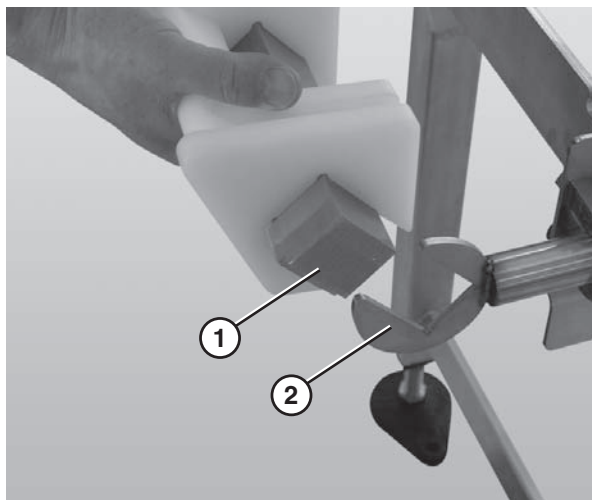

Figure 20
4. Attach the nose bar transfer post (Figure 20, item 1) to the nose bar idler shaft hands (Figure 20, item 2).